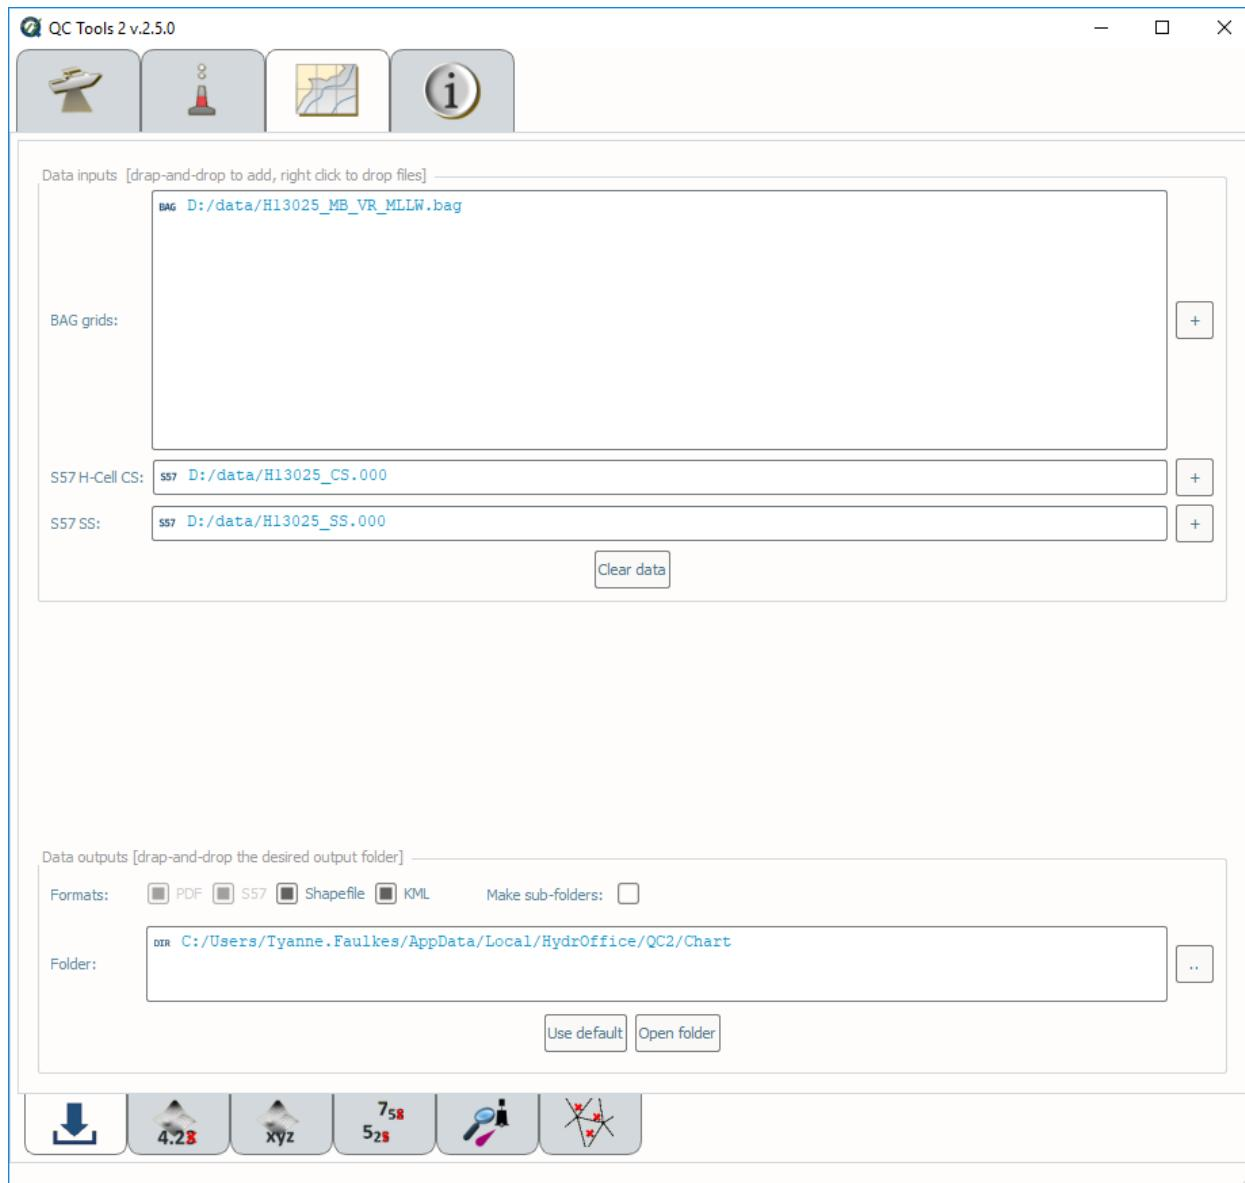

Fig. 2.70: Chart review tab.
- With the addition of a grid, feature file, and survey sounding selections, the **Grid truncate**, **Grid xyz**, **S57 truncate**, **Triangle Rule**, and/or **Scan Features** tabs on the bottom of the interface will become available (Fig. 2.70).